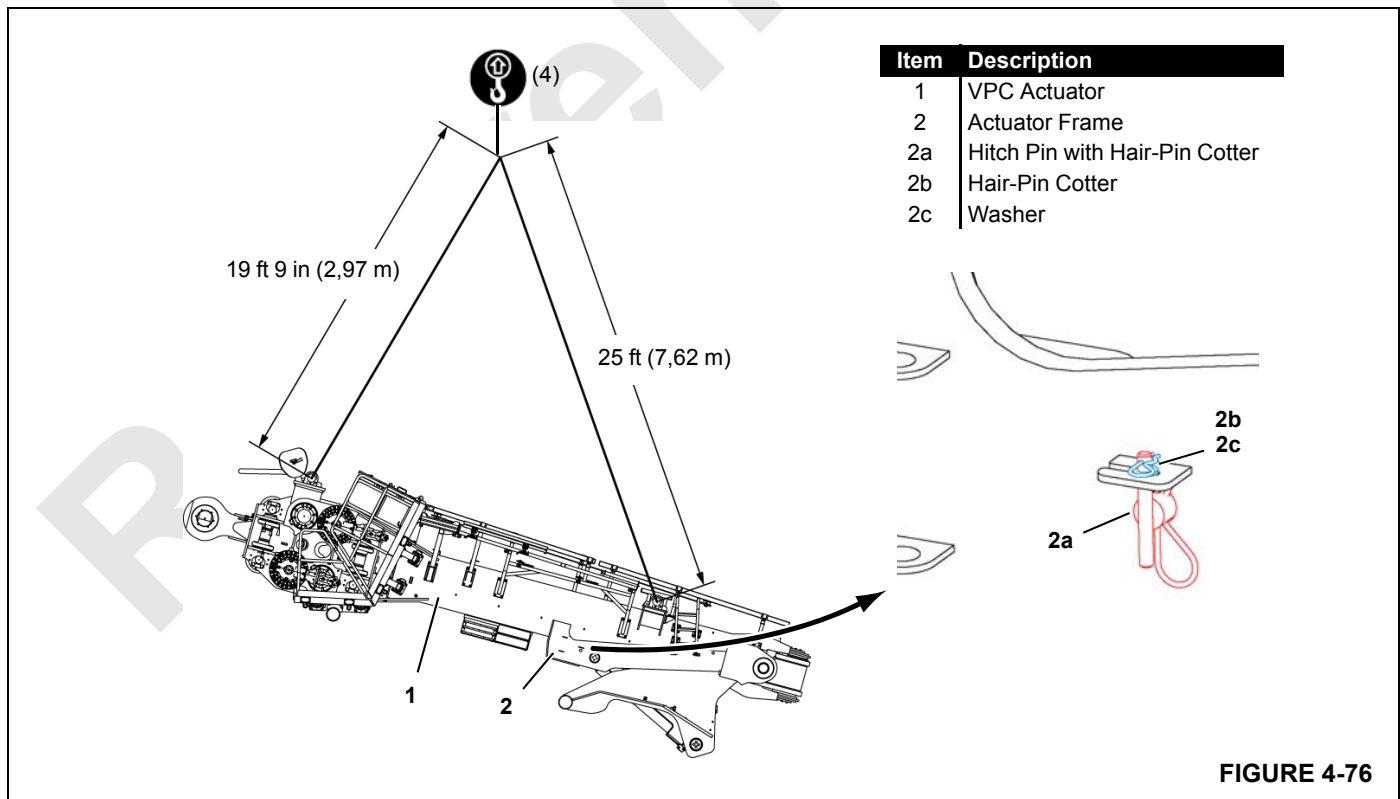

FIGURE 4-76
1. Make sure VPC actuator (1, Figure 4-76) and actuator frame (2) are pinned together (two places) with hitch pin (2a).
2. Lift VPC actuator (1, Figure 4-76) and actuator frame (2) off the trailer and place them on the ground in the assembly area.
- Attach Lifting slings to VPC actuator (1, Figure 4-76) and actuator frame (2).